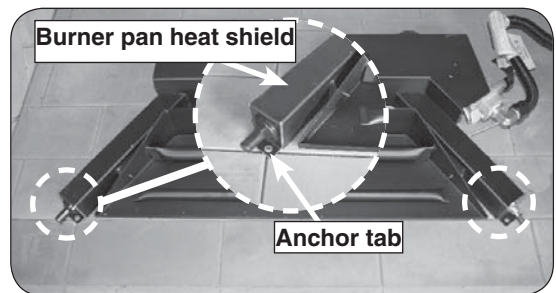

Fig. 19-5 Secure burner to floor
3. The burner system must be secured to the fireplace floor. The unit has two anchoring tabs located at the front of the burner pan heat shield. Using the appropriate hardware for your fireplace construction (not included), secure the burner system into the fireplace floor (see Fig. 19-5).